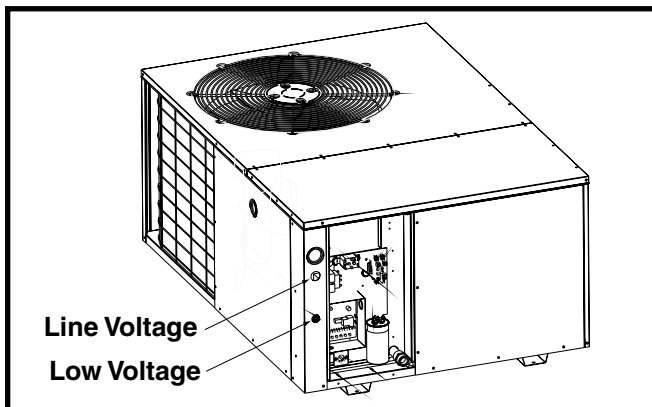

Figure 7. Power Entry
- Provide power supply for the unit in accordance with the unit wiring diagram, and the unit rating plate. Connect the line-voltage leads to the terminals on the contactor inside the control compartment. Extend leads through power wiring hole (Figure 7). Connect L1, L2, & L3 directly to the contactor.
- The low voltage wires must be properly connected. Route 24V control wires through the sealing grommet (Figure 7 (page 7)) near the power entrance. Recommended wire gauge and wire lengths for typical thermostat connections are listed in Table 2.